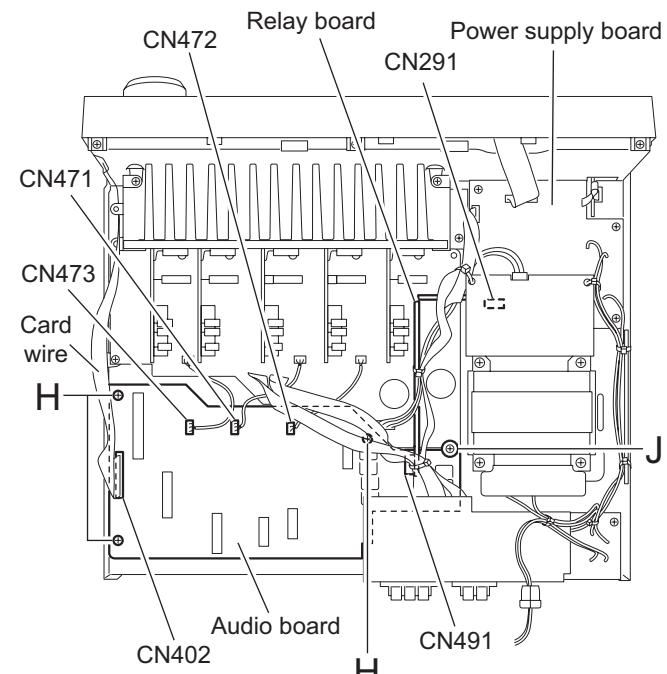

Fig.9
2.7 Removing the audio board (See Fig.9)